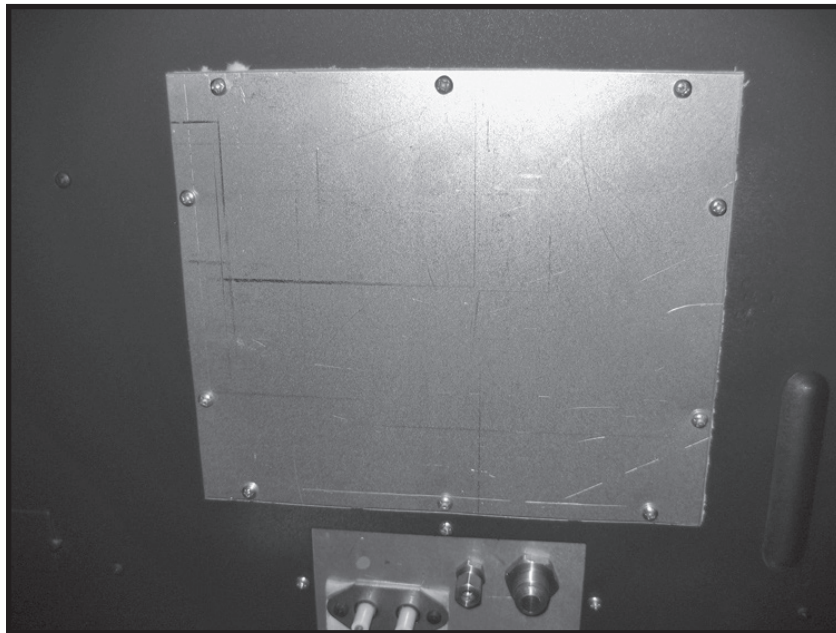

Figure 25: Access panel.
3. Remove all 10 screws from the Valve control center panel (Figure 25).